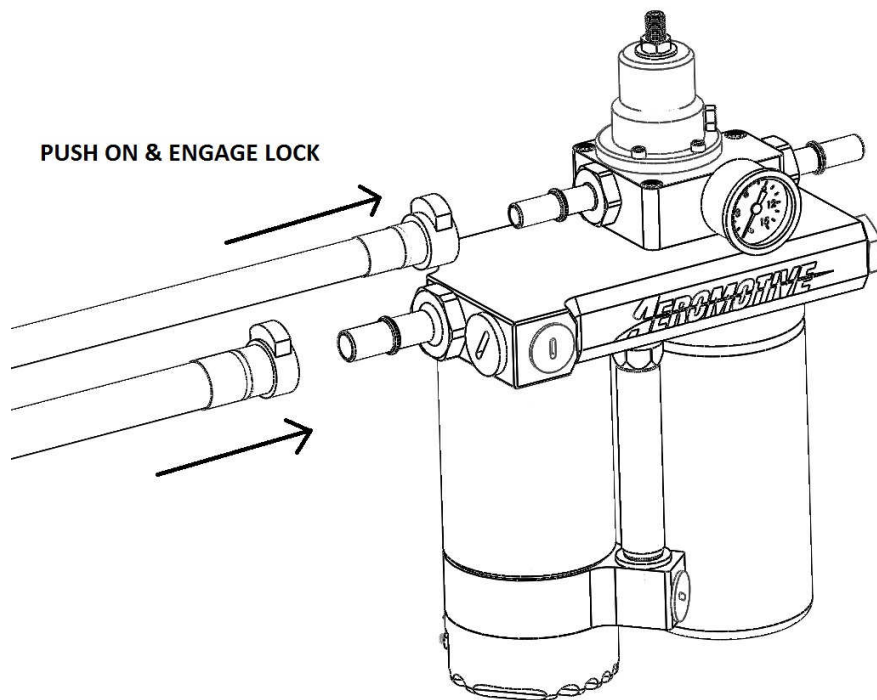

FIGURE 1-14
18. Now attach the feed and return lines to the pump and install fuel pressure gauge in the 1/8" npt gauge port. Route the lines as such to take out excess length. **FIGURE 1-14**